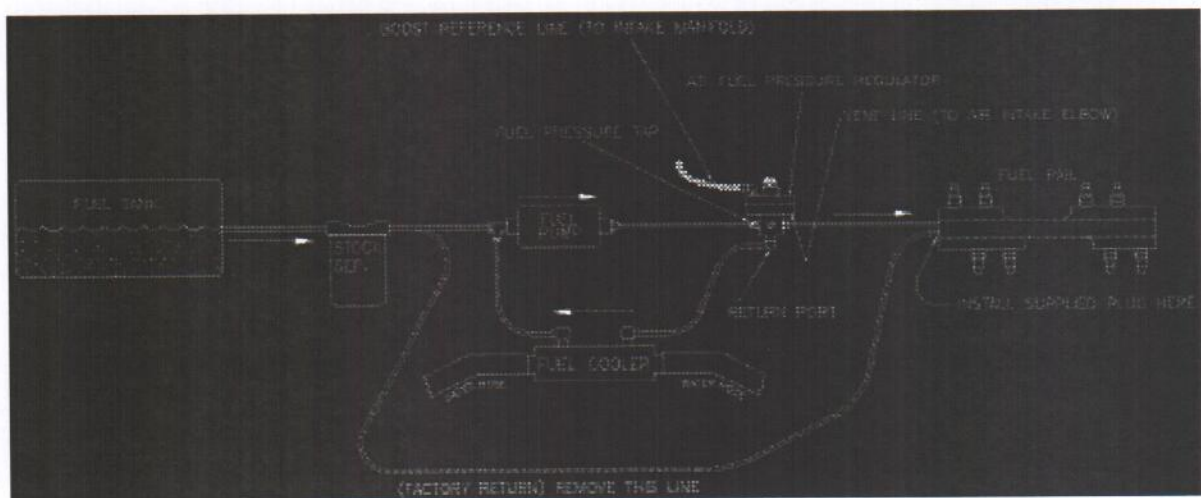

FIGURE D3
1. Find a location near the water separator to mount the fuel pump assembly. Mount as low as possible in the boat, preferably on the stringer. Position the pump so that the outlet of the pump faces the back of the motor. Attach the pump assembly using supplied screws. See figure D3 for fuel system layout.
- 3a. Locate the fuel line attachment point at the back of the fuel rail near the distributor. There is a single bolt holding a retaining clip for the (2) fuel lines. Remove this bolt and retaining clip. Note: It may be necessary to remove the distributor cap to get access to this bolt. Remove the return line (the lower of the two lines) and install supplied brass plug and o-ring. Re-install retaining clip and bolt (and distributor cap, if removed).